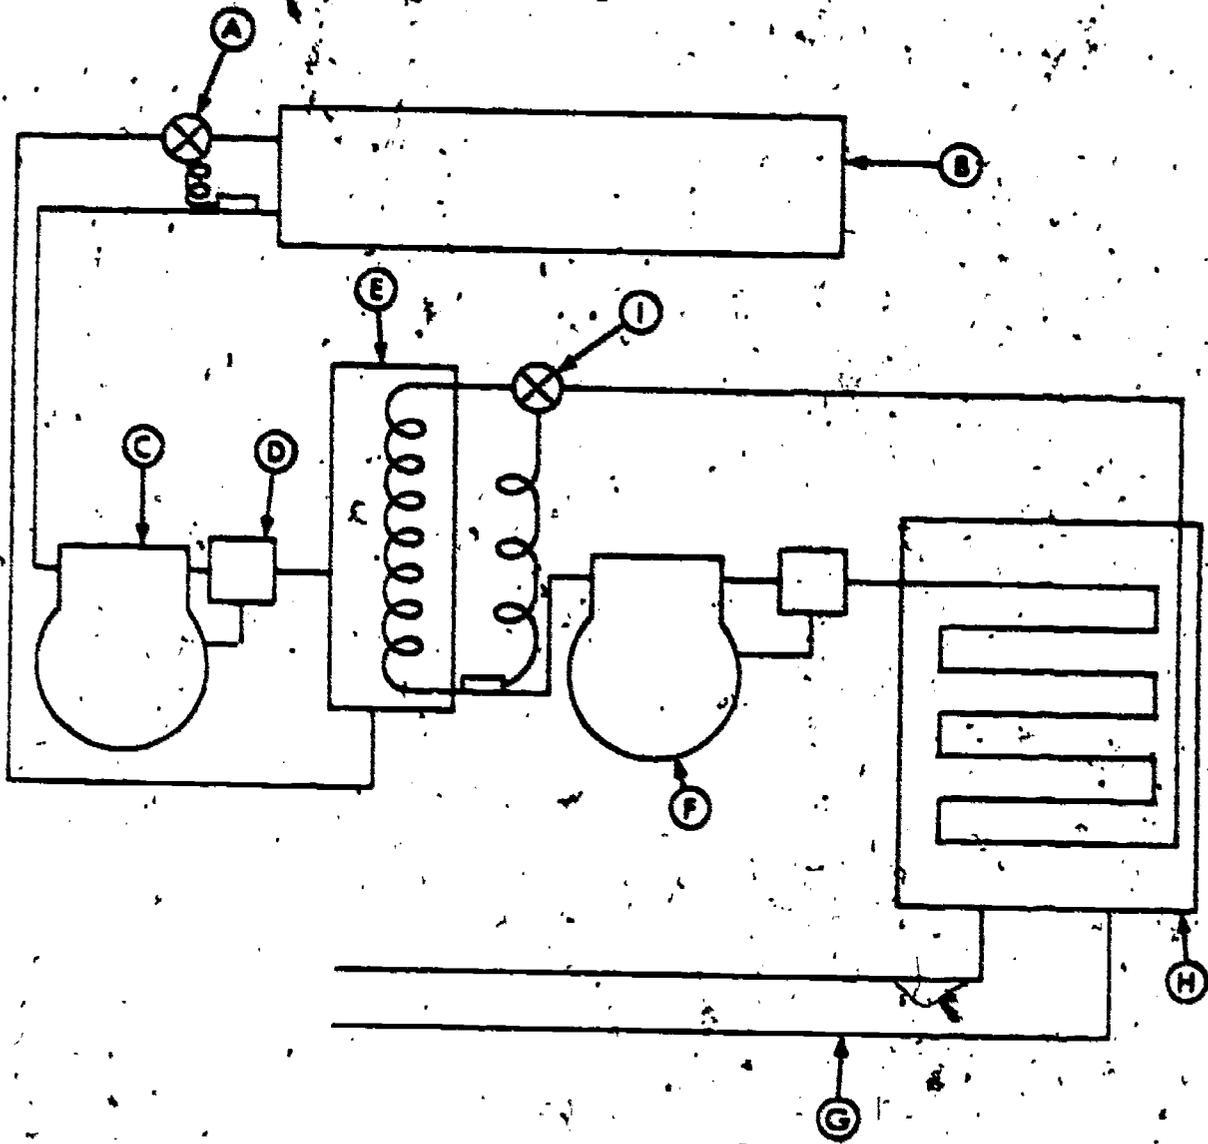

Figure 11. Elementary Cascade System
1. Use the elementary cascade system schematic in figure 11.